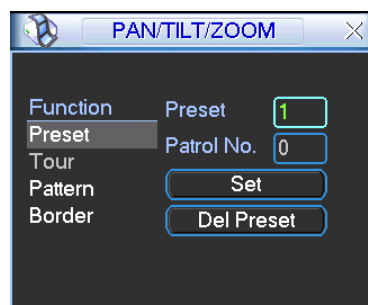
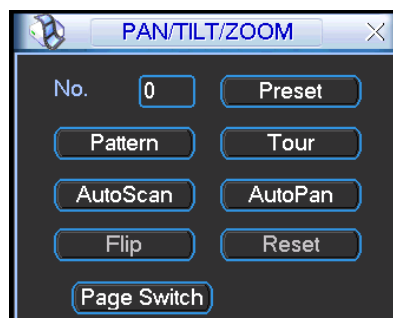
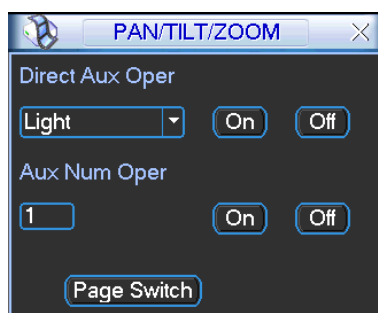

Figure 3-8
Figure 3-9
Figure 3-14
In Figure 3-6, please click the “set” button. The interface is shown as below. See Figure 3-8. Here you can set the following items:
In \_ Figure 3-6, click page switch button, the interface is shown as in Figure 3-9.
- The following setups are usually operated in the Figure 3-6, Figure 3-8 and Figure 3-9.
In Figure 3-8, click preset button and input preset number. The interface is shown as in Figure 3-10.
In Figure 3-9, please input preset number in the No. blank, and click preset button.
In Figure 3-8, click patrol button. The interface is shown as in Figure 3-11. Input preset number and add this preset to a patrol (tour). For each patrol (tour), you can input max 80 presets.
In Figure 3-8, input patrol (tour) number in the No. blank and click patrol button
In Figure 3-8, click pattern button and then click "begin" button. The interface is shown as in Figure 3-12. Then you can go to Figure 3-6 to modify zoom, focus, and iris.
In Figure 3-9, input mode value in the No. blank, and click pattern button.
In Figure 3-9, click “Auto Scan” button, the system begins auto scan. Correspondingly, the auto scan button becomes Stop button. Click stop button to terminate scan operation.
In Figure 3-9, click page switch button, you can see an interface is shown as below. See Figure 3-14. Here you can set auxiliary function. The aux value has relationship with the Aux button of the decoder.